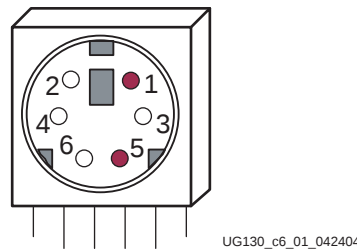

Figure 6-1: PS/2 DIN Connector
The Spartan[®]-3 FPGA Starter Kit board includes a PS/2 mouse/keyboard port and the standard 6-pin mini-DIN connector, labeled J3 on the board and indicated as ⑨ in Figure 1-2. Figure 6-1 shows the PS/2 connector, and Table 6-1 shows the signals on the connector. Only pins 1 and 5 of the connector attach to the FPGA. A detailed schematic appears in Figure A-7.